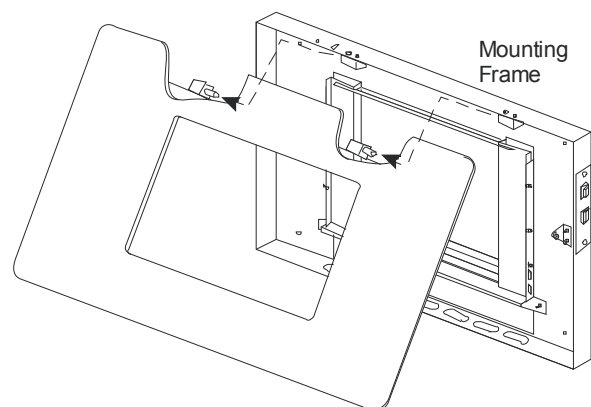

Figure 62
3. Separate the fascia from the mounting frame by opening and sliding it off its hinges as shown in **Figure 62**. Place the glass fascia somewhere safe to prevent damage to it.